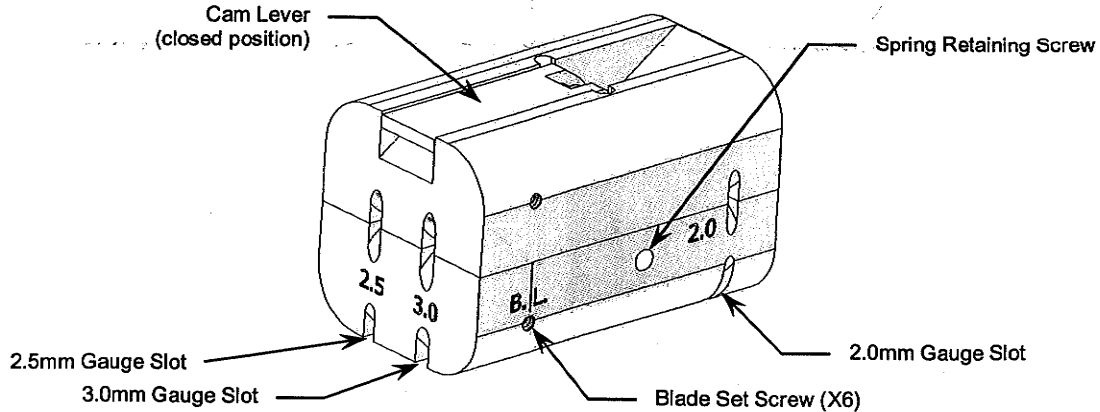

Figure 1
- Using the incorporated gauge slots, determine the size of the buffer tube to be slit. (Figure 1)